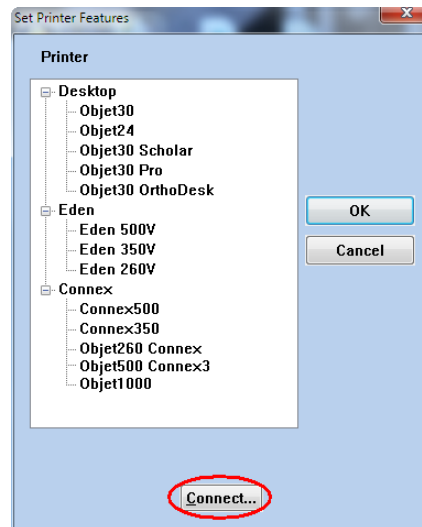

Figure 5-104: Connecting to a printer (A)
2. In the *Set Printer* dialog box, click *Connect* (see figure 5-104).